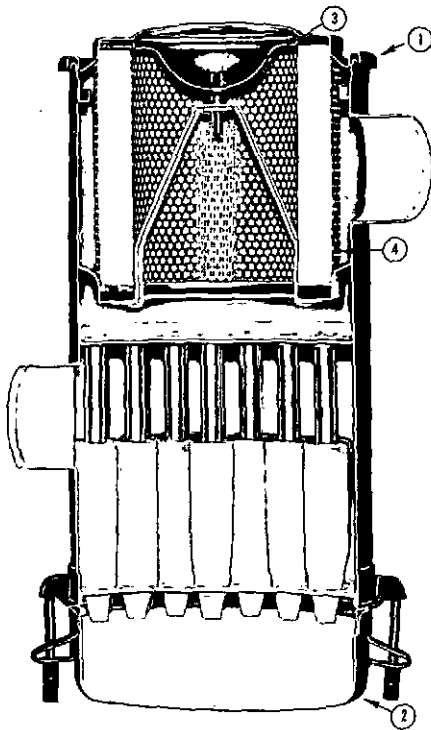
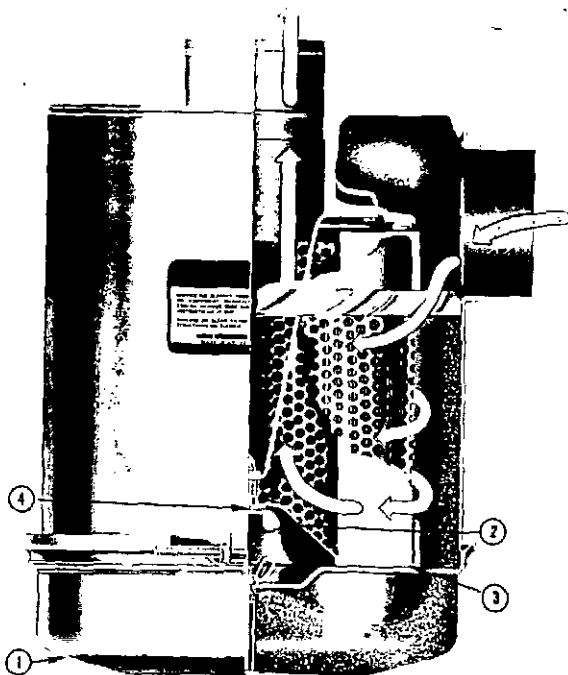

Fig. 5-7. Air cleaner — composite type
Fig. 5-8. Air cleaner — centrifugal type
The separated dust collects in pan (2, Fig. 5-7) at bottom of cleaner while clean air passes up through center of tube to a paper filter (4, Fig. 5-7) (3, Fig. 5-8). The paper filter then removes any small dust particles remaining in the air. Before disassembly, wipe dirt from cover and upper portion of air cleaner. To clean composite-type:
1. Loosen clamps and remove cover (1, Fig. 5-7).
sition; remove element carefully so loose dirt will not fall into chamber (3, Fig. 5-7) (2, Fig. 5-8).
3. Remove dust cup (2, Fig. 5-7) (1, Fig. 5-8) and clean.